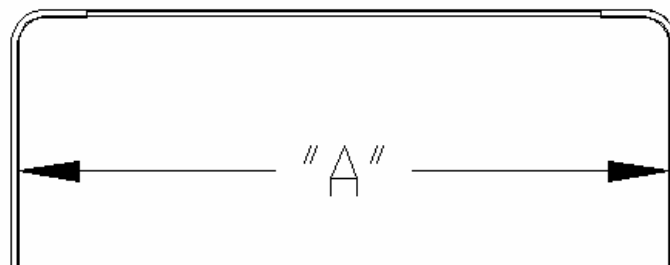

FIG. 14
5. MEASURE THE DISTANCE BETWEEN THE UPPER ARMS AND CUT ONE END OF REAR CROSS PIECE 4" SHORTER THAN THE DISTANCE MEASURED. SEE FIGURE 14.